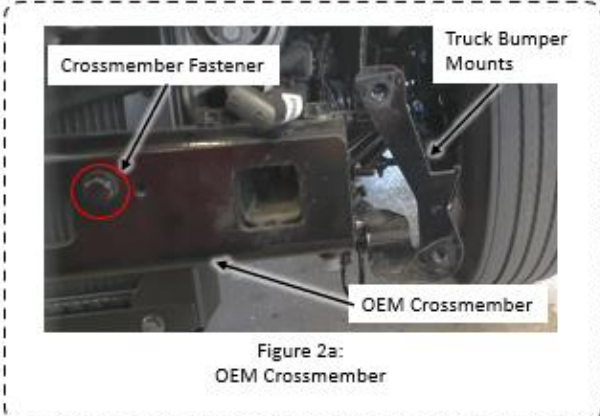

Figure 2a:
1. Remove the Crossmember fastener from the OEM crossmember as shown in Figure 2a. Do this one side at a time